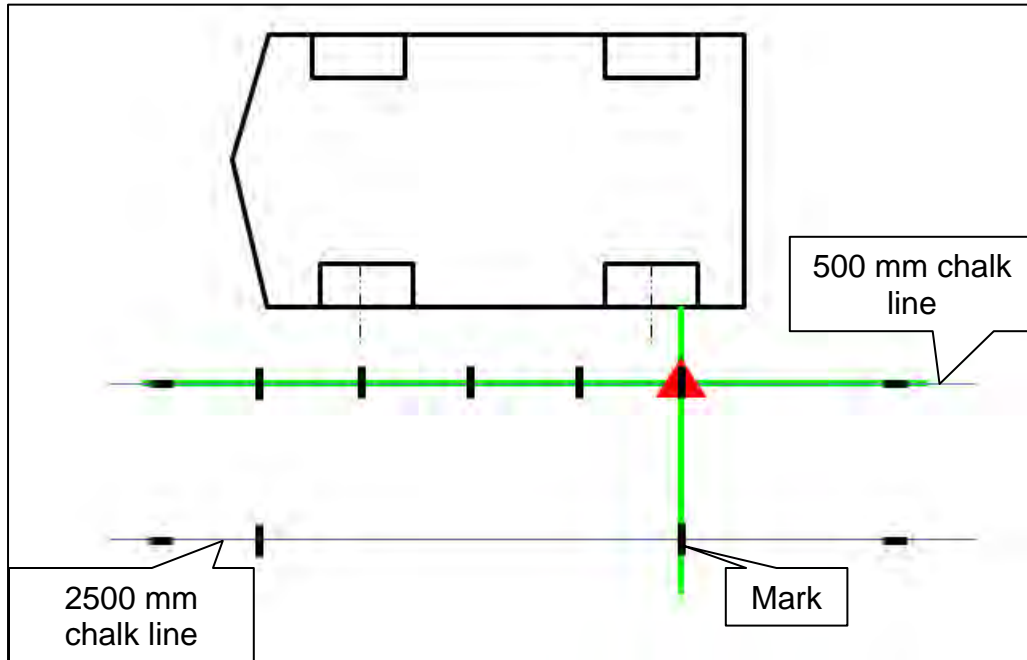

Figure 41
28. Move the laser level to the position shown in Figure 41, and then make a mark on the 2500 mm chalk line.